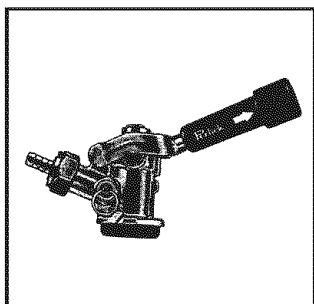

Fig. 8
Position the keg stand directly in front of the open refrigerator cabinet. Using proper lifting technique, (using keg handles only) carefully lift the beer keg onto the keg stand. **See Fig. 8**
14. Installation of the Keg Coupler: IMPORTANT NOTICE; Make sure the pull handle of the keg coupler is in the "upward" (closed) position before installing on the beer keg. **See Fig. 8** Insert the keg coupler into the locking neck of the beer keg and apply a 1/4 turn clockwise to lock into position.
- Check that the keg coupler (handle) is in the up (off) position. **See Fig. 8**